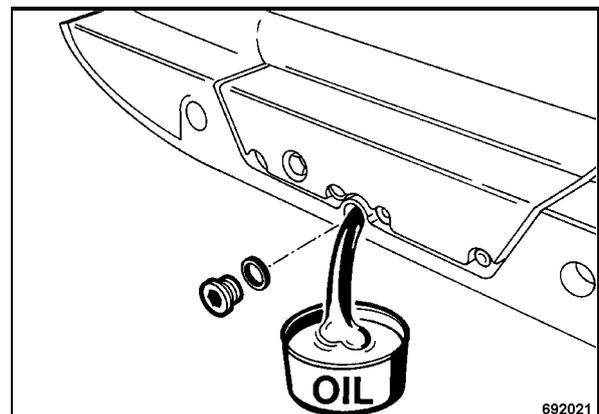

Fig. 72
- Unscrew the drain plug (Fig. 72), drain and catch all old oil.